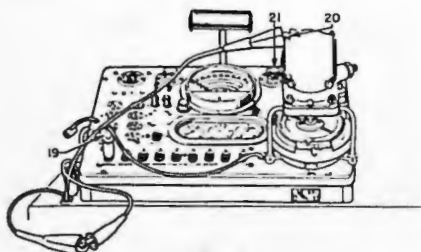

Fig. 3
- 19 Plug meter on adapter in % dwell socket (Fig. 3).
- 20 Ground positive low tension lead to distributor case (Fig. 3).